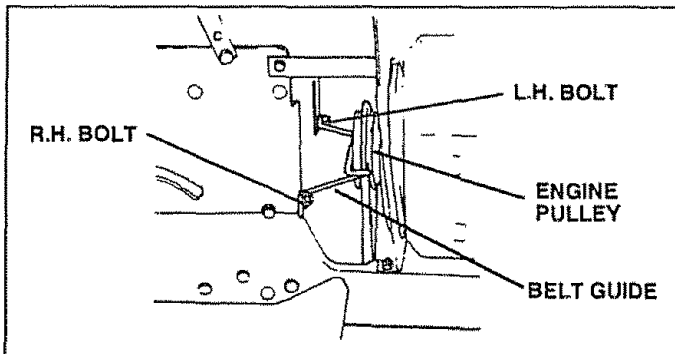

FIG. 21
- Remove four (4) hex washer head tapping screws from shift cover plate located on top of tractor frame. Remove the cover plate.
- Loosen jam nut (A) on brake rod (B) at clevis (C) (Fig. 21). If you find it difficult to loosen jam nut (A), remove cover plate in L.H. frame rail.
- Rotate brake rod (B) counterclockwise, turning brake rod out of clevis (C) four (4) to six (6) turns.
- Shut engine off. Rotate brake rod (B) clockwise by hand, turning brake rod into clevis (C) until tight. Tighten jam nut (A) on brake rod (B) at clevis (C).
- Reinstall shift cover plate and four (4) mounting screws. If cover plate in L.H. rail was removed it should be replaced.
TO REPLACE MOTION DRIVE BELT (See Figs. 21 and 22)